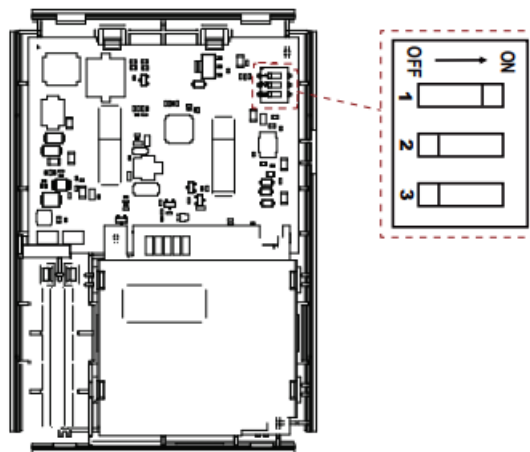

Figure 7. Location of DIP Switches*
*Figure 7 shows 1100 ppm settings.